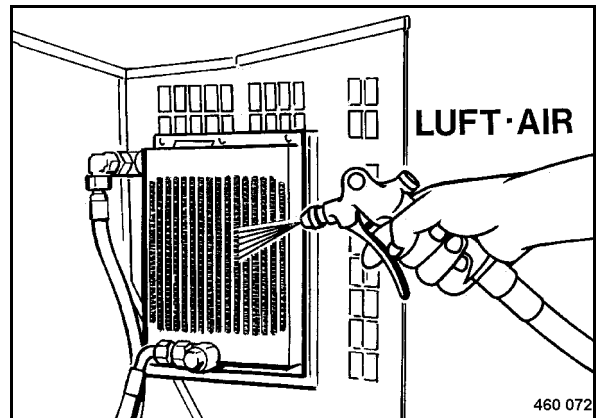

Fig. 109
- Blow the hydraulic oil cooler (Fig. 109) out from the air intake side.